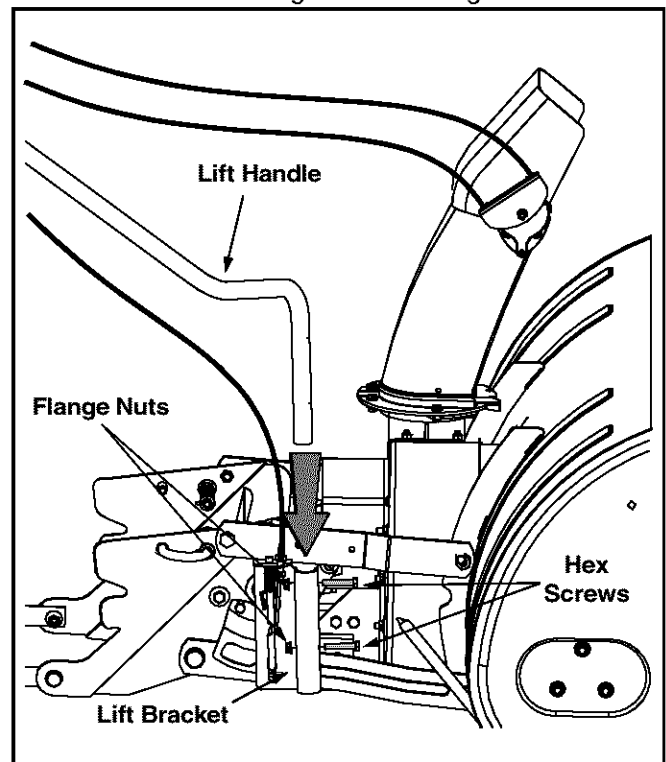

Figure 11
1. Attach the lift handle to the lift bracket on the right side of the auger housing assembly with two hex screws and two flange nuts. See Figure 11.